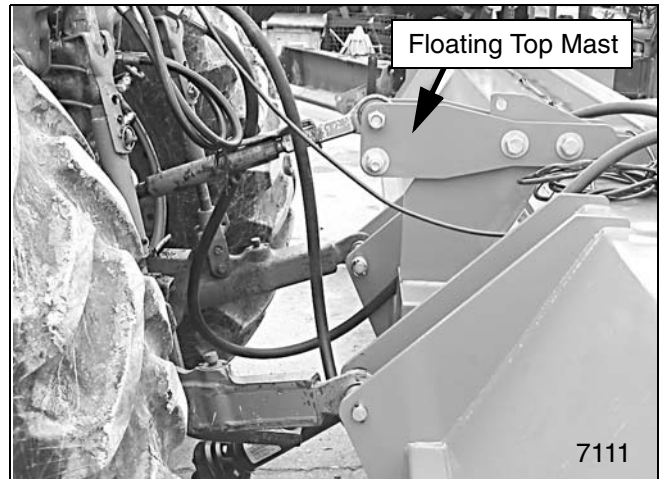

Figure 13. Free-Float Position
4. **3-Point models only:** Be sure the floating mast is free to slide in its mounting frame to allow the machine to follow ground contours. Refer to Figure 13.